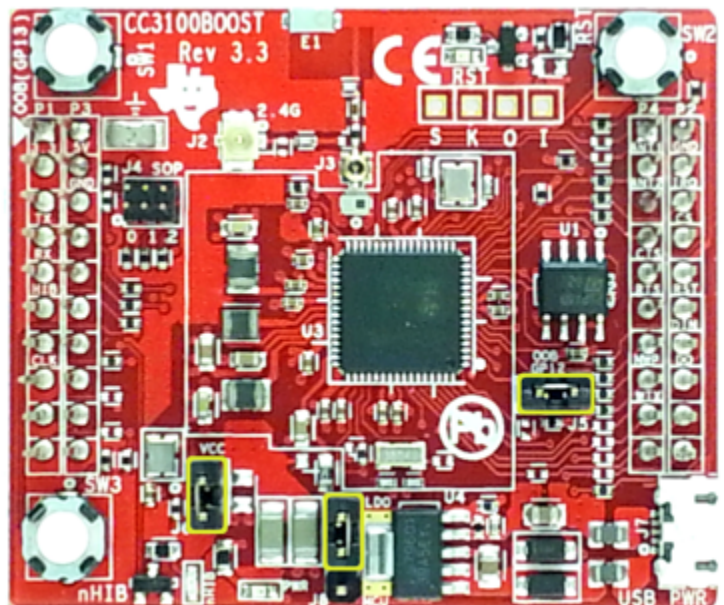

Figure 8. CC3100BOOST
1. The jumpers on the CC3100BOOST should be connected as shown in Figure 8.